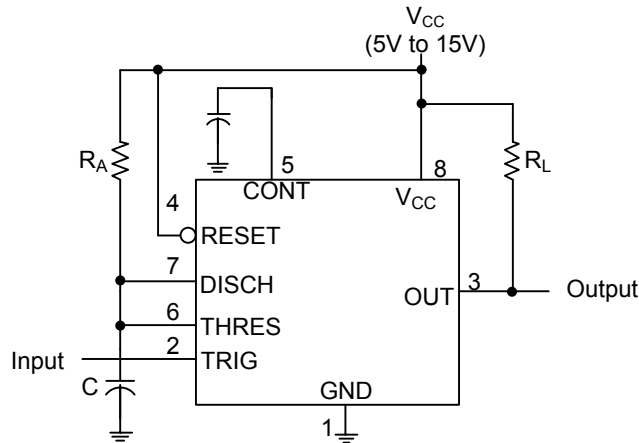

Figure 1. Monostable Operation
11. Values specified are for a device in a monostable circuit similar to Figure 1, with the following component values: $R_A = 2k\Omega$ to $100k\Omega$, $C = 0.1\mu F$.
For monostable operation, any of the '555 timers can be connected as shown in Figure 1. If the output is low, application of a negative-going pulse to the trigger (TRIG) sets the internal flip-flop and drives the output high. Capacitor C is then charged through R_A until the voltage across the capacitor reaches the threshold voltage of the threshold (THRES) input. If TRIG has returned to a high level, the output of the threshold comparator resets the internal flip-flop, drives the output low, and discharges C.
As shown in Figure 4, adding a second resistor, R_B , to the circuit of Figure 1 and connecting the trigger input to the threshold input causes the timer to self-trigger and run as a multivibrator. The capacitor C charges through R_A and R_B and then discharges through R_B . Therefore, the duty cycle is controlled by the values of R_A and R_B .
By adjusting the length of the timing cycle, the basic circuit of Figure 1 can be made to operate as a frequency divider. Figure 9 shows a divide-by-three circuit that makes use of the fact that retriggering cannot occur during the timing cycle.